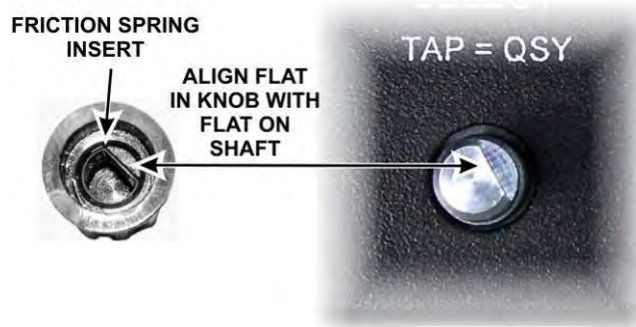

Figure 6. Installing the Knob.
□ Check to ensure the knob has its spring insert in place, then press it onto the shaft. Be sure the flat on the shaft is aligned with the flat surface in the knob (see Figure 6). The control has a built-in switch so do not be surprised to hear a click when you press the knob onto the shaft. The knob will stand above the surface of the front panel to allow room for the knob to move when operating the switch. Also, some side-to-side movement of the knob is normal in a control of this type with a built in switch.
Remove the knob to remove the front panel board. The knob is held by friction (see Figure 6 on page 57).